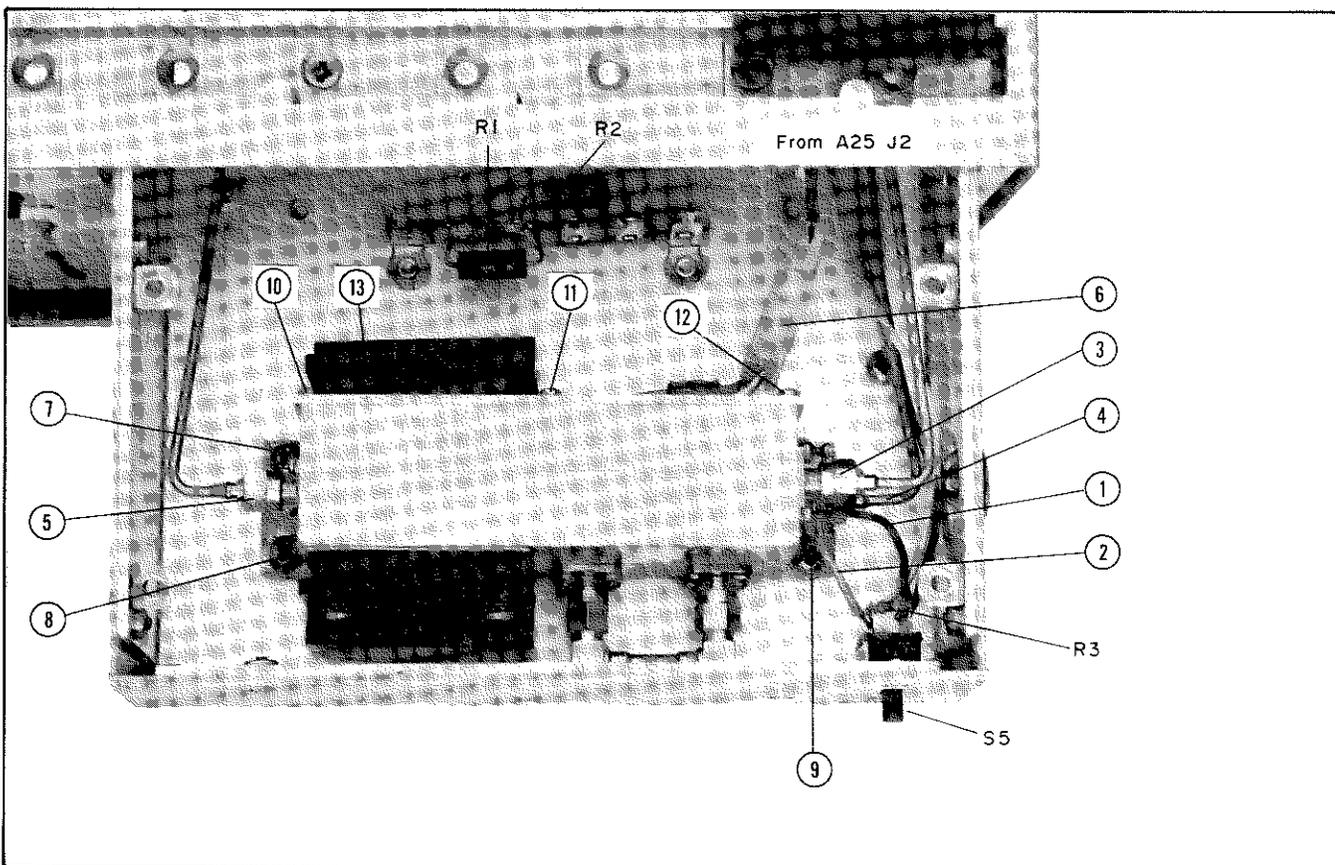

Figure 8-22. A9 Directional Bridge Board Disassembly.
- b. Remove the four screws from the bottom of the UNKNOWN terminal deck and remove the bottom cover. The directional bridge assembly is located inside the terminal deck as shown in Figure 8-22.
- c. Unsolder and disconnect the purple and orange colored leads (labeled ① and ② in figure) from the terminals on the assembly.
- d. Disconnect the SMC connectors ③, ④ and ⑤.
- e. Disconnect the nylon connector ⑥.
- f. Remove the three screw ⑦, ⑧ and ⑨ securing the assembly shield box to the terminal deck. Carefully lift the directional bridge assembly up and out.
- g. Remove the six screws retaining the shield plate of the assembly (three of the screws, labeled ⑩, ⑪ and ⑫, are shown in the figure). All the components on the A9 board are easily accessible after removing the shield plate with the heater module ⑬).